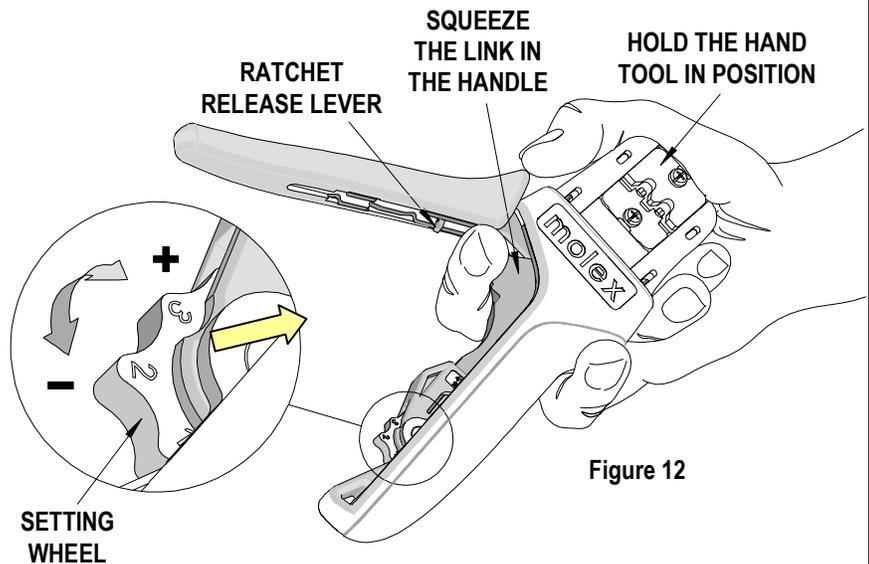

Figure 12
1. Hold the hand tool in the palm of your hand as shown in Figure 12. Using the index finger squeeze the link towards the top of the hand tool frame. This will release the preload adjustment wheel.
2. Rotate the setting wheel counter-clockwise (CCW) to increase handle force. The numbers will display higher. To decrease handle force, rotate the setting wheel clockwise (CW).